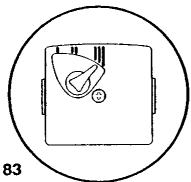

Fig. 83
**11.21 Pump - Complete** (Figs. 83 & 84).